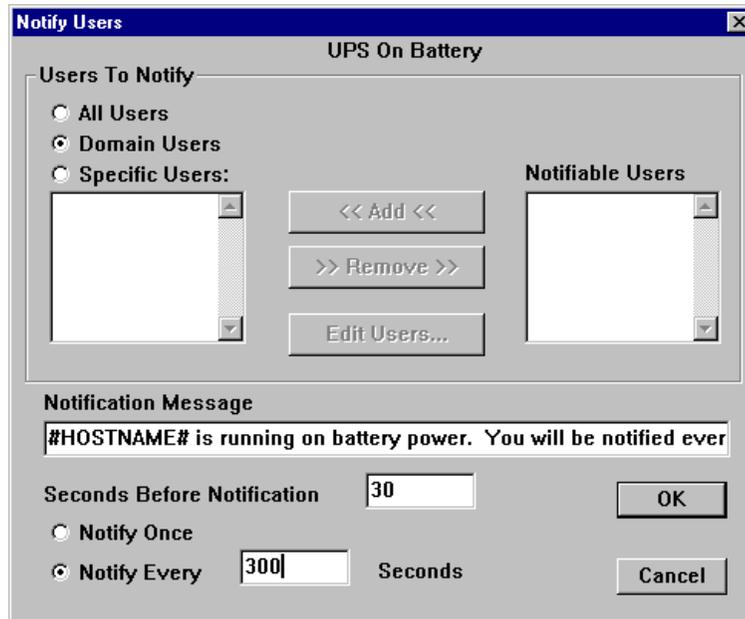

Figure 173. Setting the Options for Notify Users
4. Click **Options** to the right of **Notify Users**. Figure 173 appears:
5. Configure the notification per Figure 173.